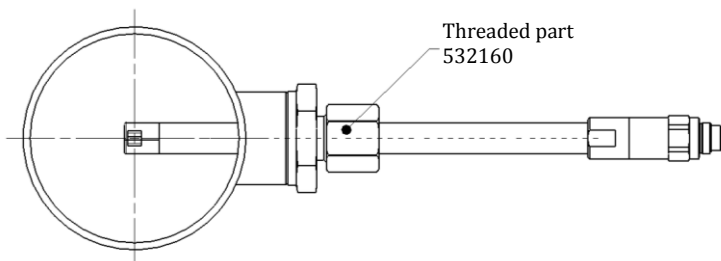

Figure 3-1
- In inhomogeneous, laminar flow fields (e.g. a quasi-parabolic speed profile in a tube), the sensor tip should be positioned at the place at which the highest speed occurs (adjustment of the immersion depth see Figure 3-1) since this point has normally the largest distance to interfering elements such as boundary surfaces.
Installation in a flow guiding tube is carried out by means of a compression fitting (532160, see Figure 3-1):